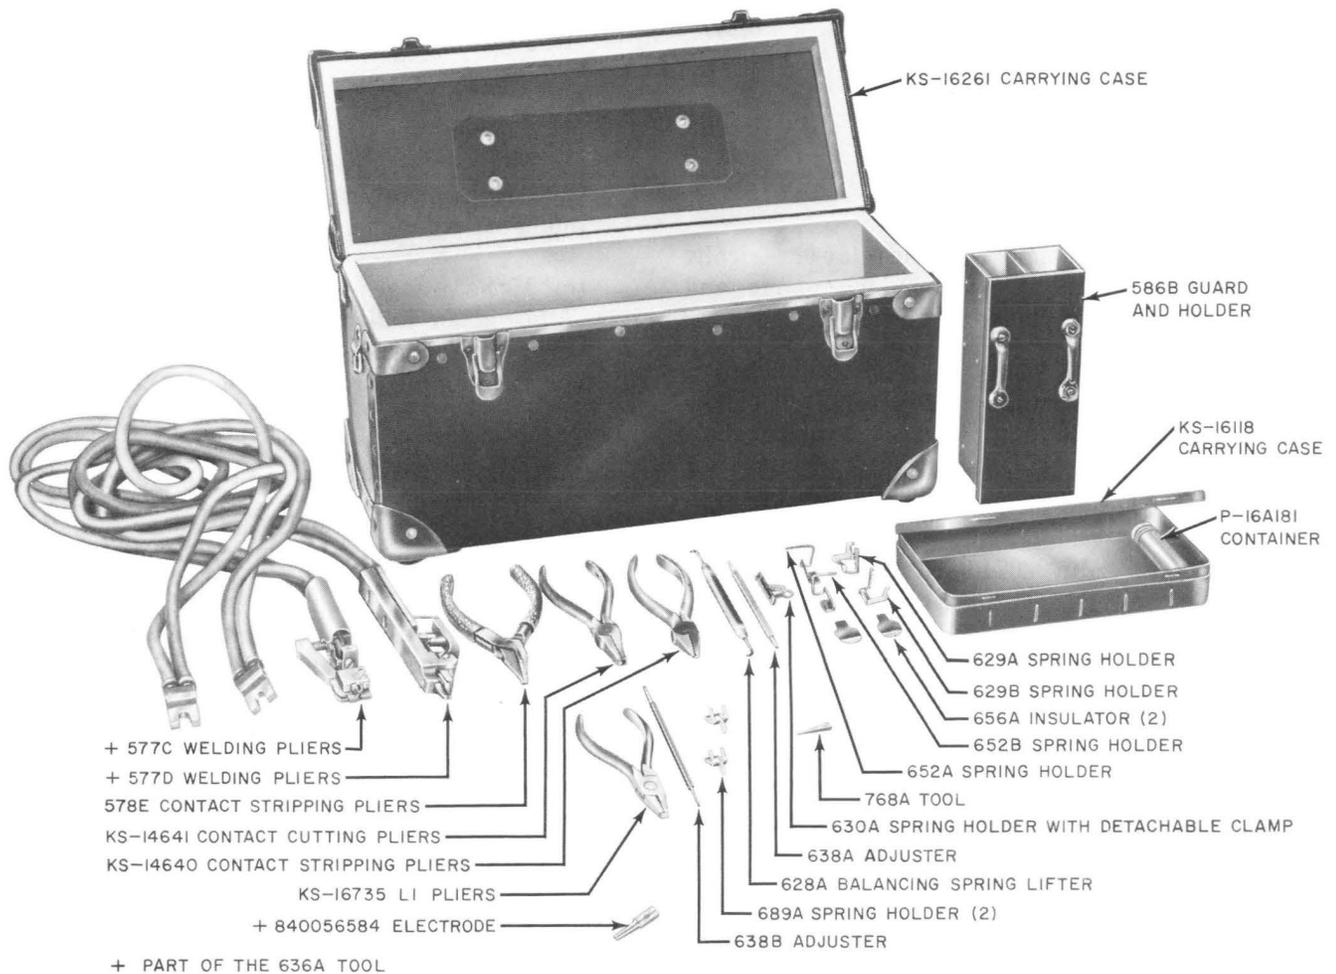

Fig. 4—1013A Tool Kit
2.11 The 1013A tool kit shown in Fig. 4 is used in conjunction with the 1004B tool kit for replacing contacts on wire-spring type relays. The 1013A tool kit consists of the items listed below. The use of a number of these items is described briefly following the listing of the item or in the paragraph noted after the listing.